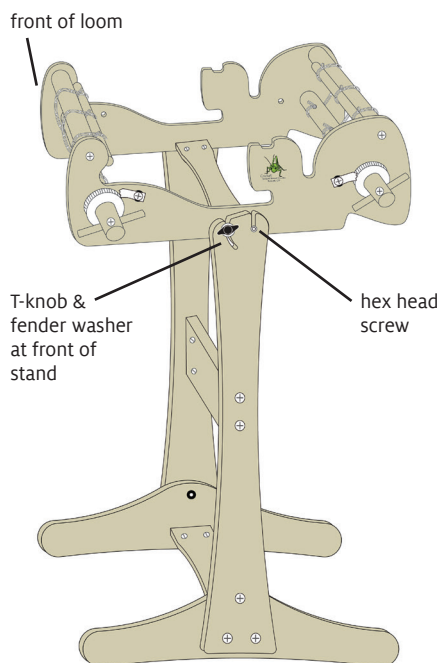

FIGURE 3: PLACE LOOM ON STAND
11. Add the Cricket (without Quartet) to the stand: Orient the front of the loom with the front of the stand (Figure 3). Place the loom between the legs, setting the hex head screws in the short straight slots and the T-knobs in the long curved slots. The washers on the T-knobs should sit outside of the legs.